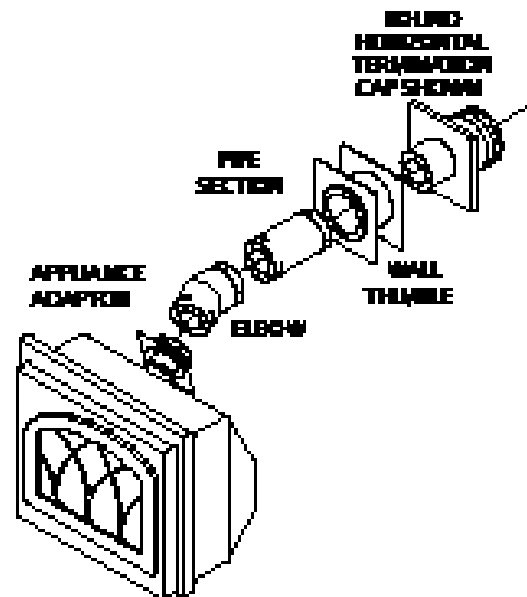

Figure 1
- Horizontal Termination (Figs. 1 and 2)